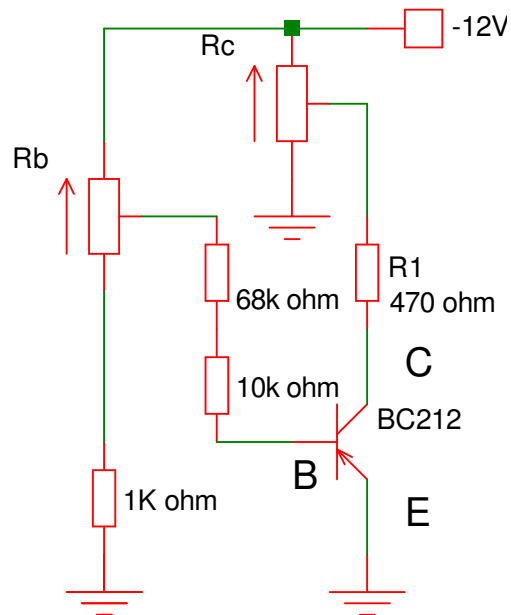

Figure 7: Common-emitter mode.
1. Connect the circuit according to Figure 7. The 470Ω resistor R1 is external. Rc and Rb are the two $5k\Omega$ potentiometers in the test-rig. You also need two voltmeters to monitor V_{be} and V_{ce} as well as an ammeter to monitor I_b .
7. Explain what happens to I_B and I_C if you change Rb or Rc in Figure 7 but keep V_{CE} constant (4 points)
1. Still using the circuit as depicted in Figure 7, now use one voltmeter and two ammeters to monitor I_b , I_c and V_{ce} . Set $I_b = 25\mu\text{A}$, then measure how I_c varies with V_{ce} . Cover as wide a range of V_{ce} values as you can. Plot a graph of I_c against V_{ce} again as you make the measurements. Take at least 10 equally spaced data points for this value of I_b . [Hint: just like for the input characteristics, you should find the maximum range of your data before you start taking the data]